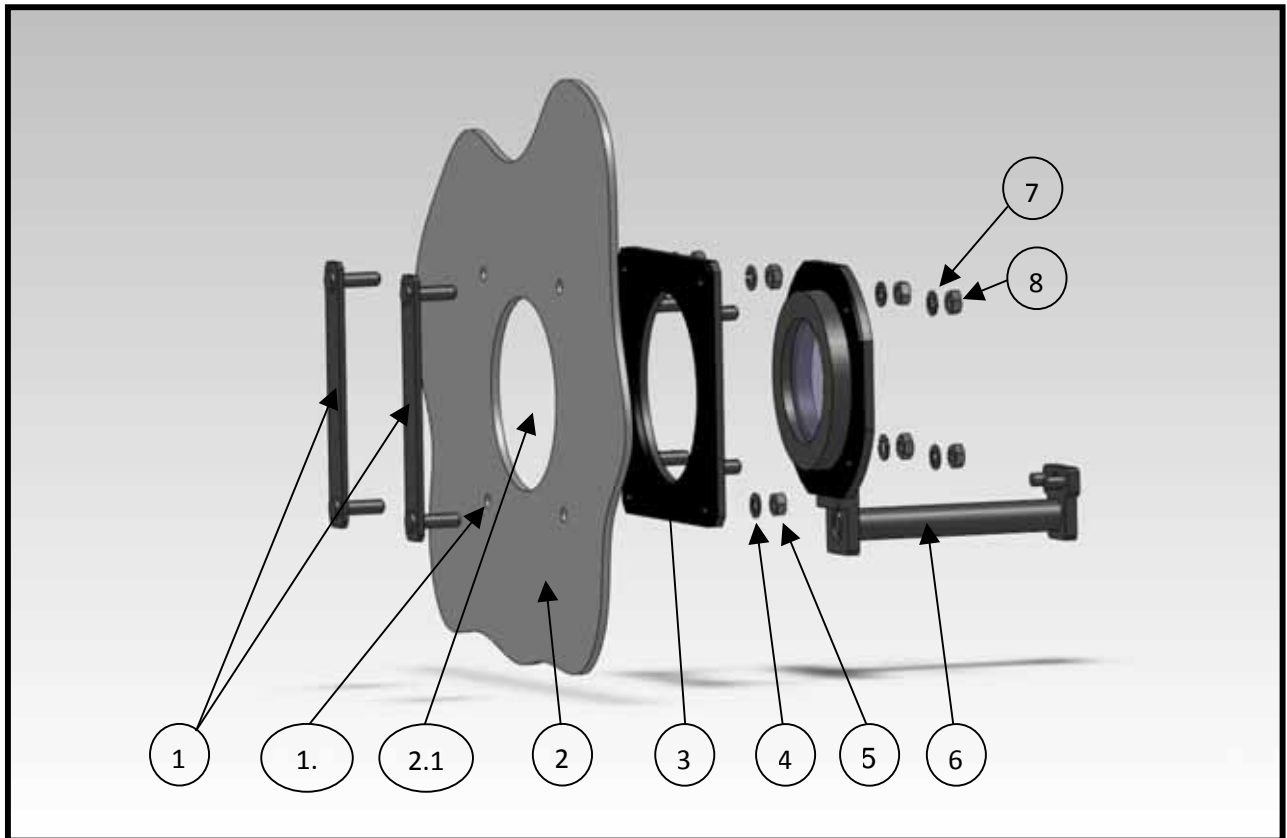
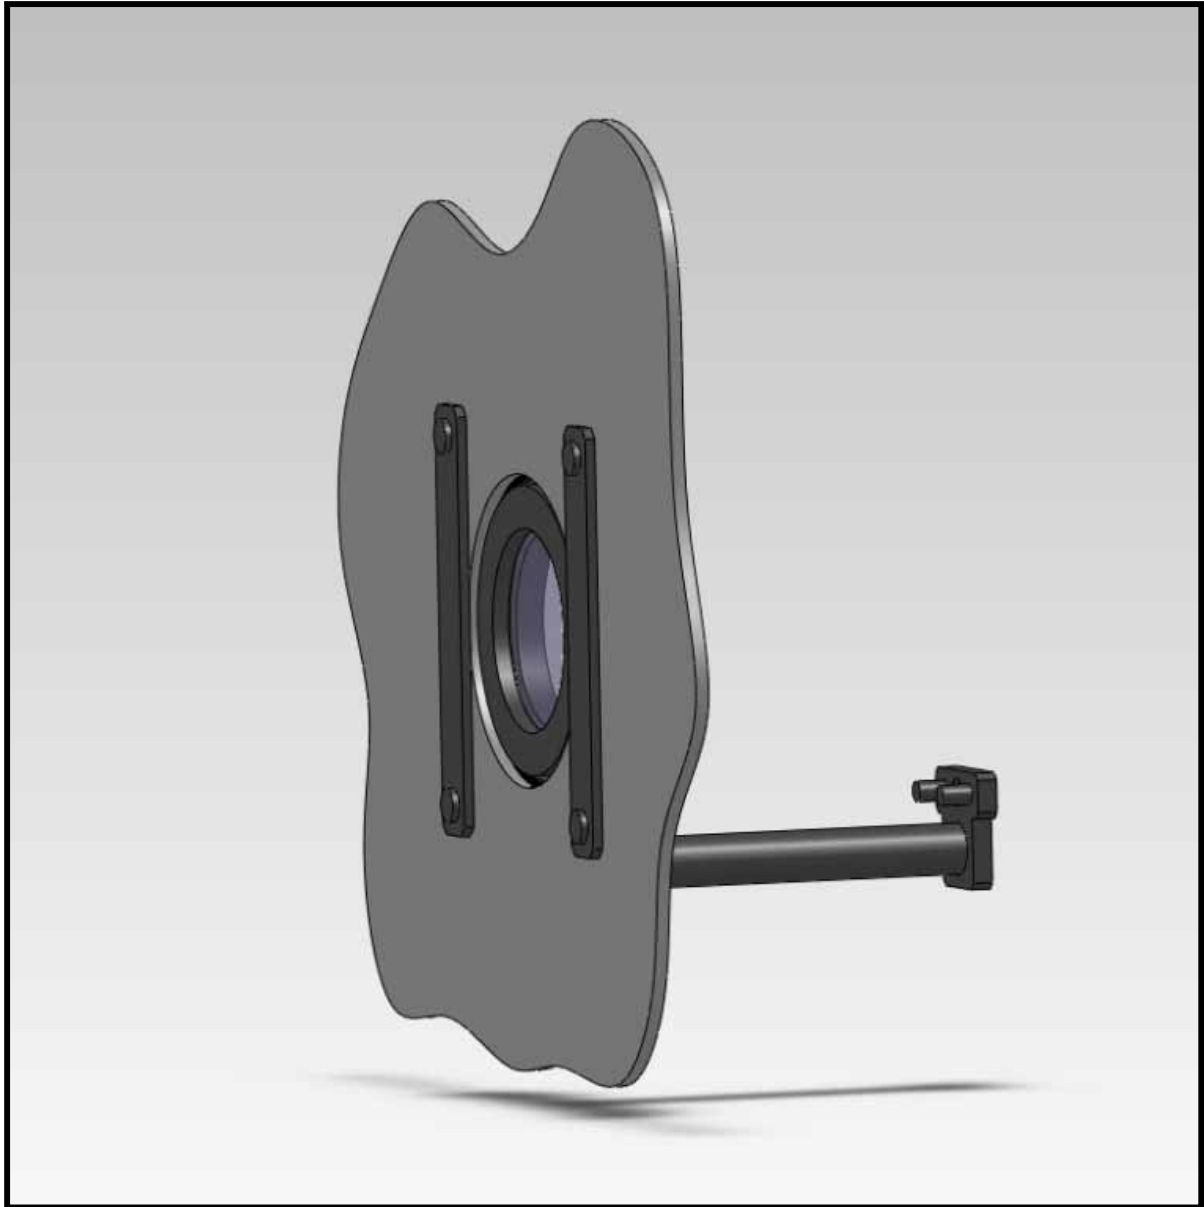

Figure 4 – Duct Mount Parts before Final Assembly
Figure 5 – Duct Mount Parts after Assembly
3. Mounting the Duct Mount (figure 4)
- a. Insert the first internal plate (1) through the air duct (2) hole (2.1). Hold it by hand and press the base plate (3) to the installation surface against the internal plate (at base plate (3) there is a gasket which is glued). The internal plate screws should be inserted into the gasket holes to prevent it from falling. Secure the base plate to the installation surface using four nuts (5) and washers (4). Then remove your hand and repeat the process for the second internal plate.
- b. Attach the duct mount base (6) to the base plate (3) and secure with washers (7) and nuts (8).
- c. The base plate (3) and duct mount (6) are now connected (see figure 5).